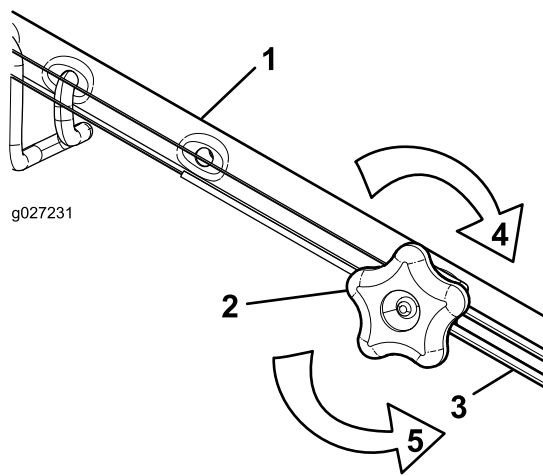

Figure 34
- Turn the adjustment knob counterclockwise to loosen the cable adjustment (Figure 34).
- Adjust the tension on the cable (Figure 34) by pulling it back or pushing it forward and holding that position.